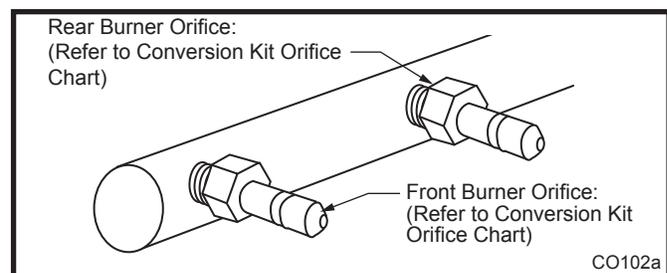

Fig. 70 Burner orifice replacement.
- Remove burner orifice from manifold assembly using 3/8" wrench. (Fig. 70)